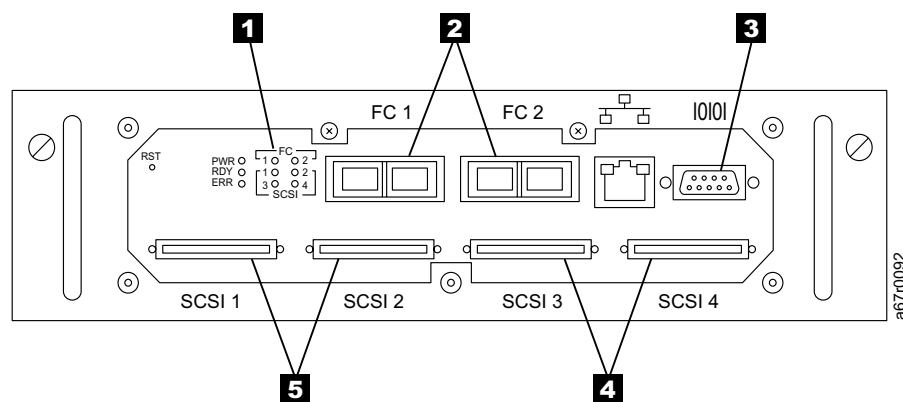

Figure 76. Gateway Panel
- See Figure 76. The Gateway Connection LED **1** is off.